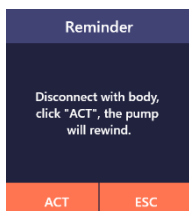

Figure 4.19
(1) Disconnect from body. click “ACT” to rewind, then the user can continue to replace the reservoir, or click “ESC” to return to the “More” interface (as shown in Figure 4.19).